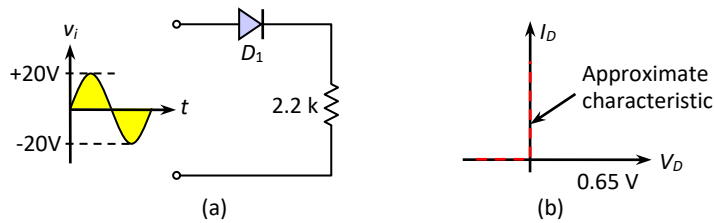

Fig.3-119: Diode circuit for Exercise 35 (a) Diode circuit
35. Using the given I - V characteristics of the diode, determine the current and the voltage across the diode and the resistor as shown in Fig.3-119.